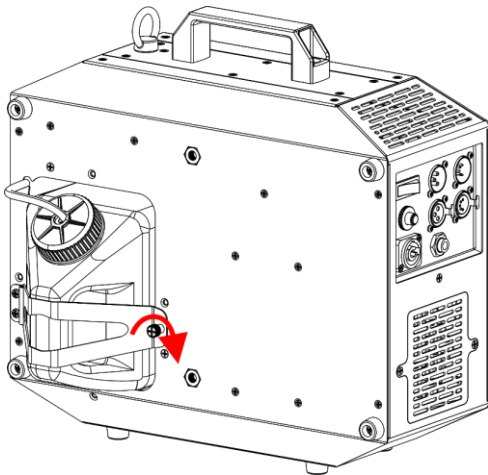

Fig. 24
- 19) Tighten the safety screw for **tank bracket (04)**, as shown in Fig. 24.